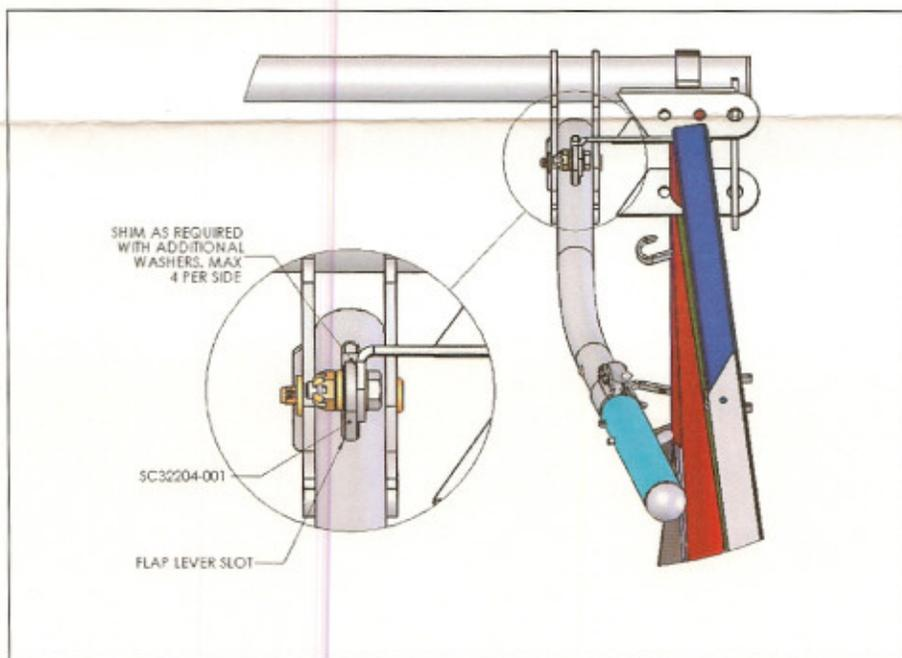

Figure 2
3. Install SC32204-001 Revision F using same hardware and new cotter pin (AN380-2-2). SC32204-001 should be centered thru flap lever slot (see Figure 2). Additional washers (AN960-10 or AN960-10L) may be used to shim SC32204-001 to achieve center position. Do not use more than 4 washers per side to shim.